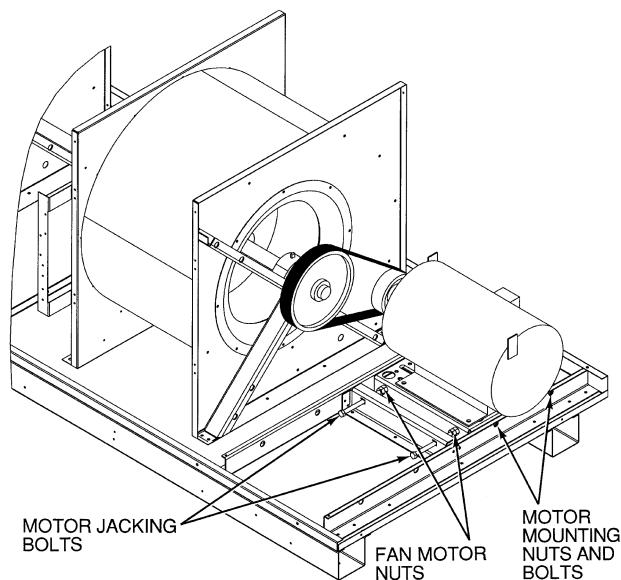

Fig. 38 — Belt Tension Adjustment
2. Loosen motor mounting nuts and bolts. See Fig. 38.